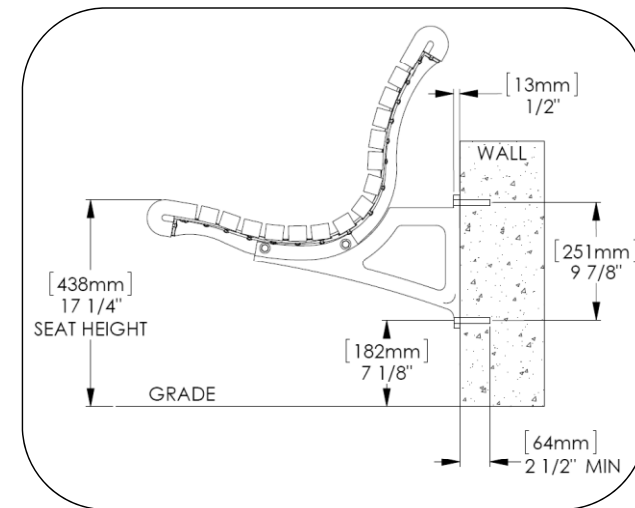

Fig. 1.3
1. Locate bench in position using temporary blocking. Verify bench seat is level. See Fig. 1.3 for seat height.